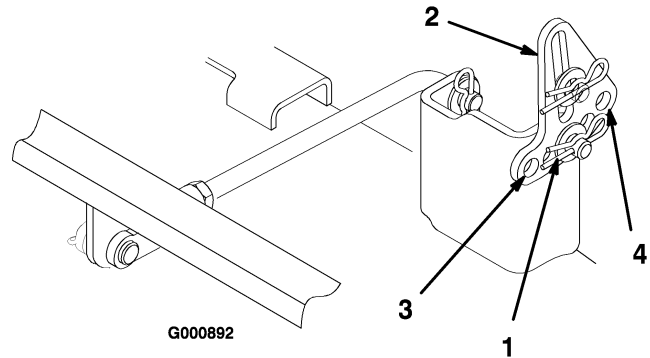

Figure 43
5. Remove the hairpin cotter and washer from the leveling bracket (Figure 43). To level the blade(s), reposition the leveling bracket(s) in a different hole and install the washer and hairpin cotter. (Figure 43). A front hole lowers the blade height and a rear hole raises its height. Adjust both sides as required.